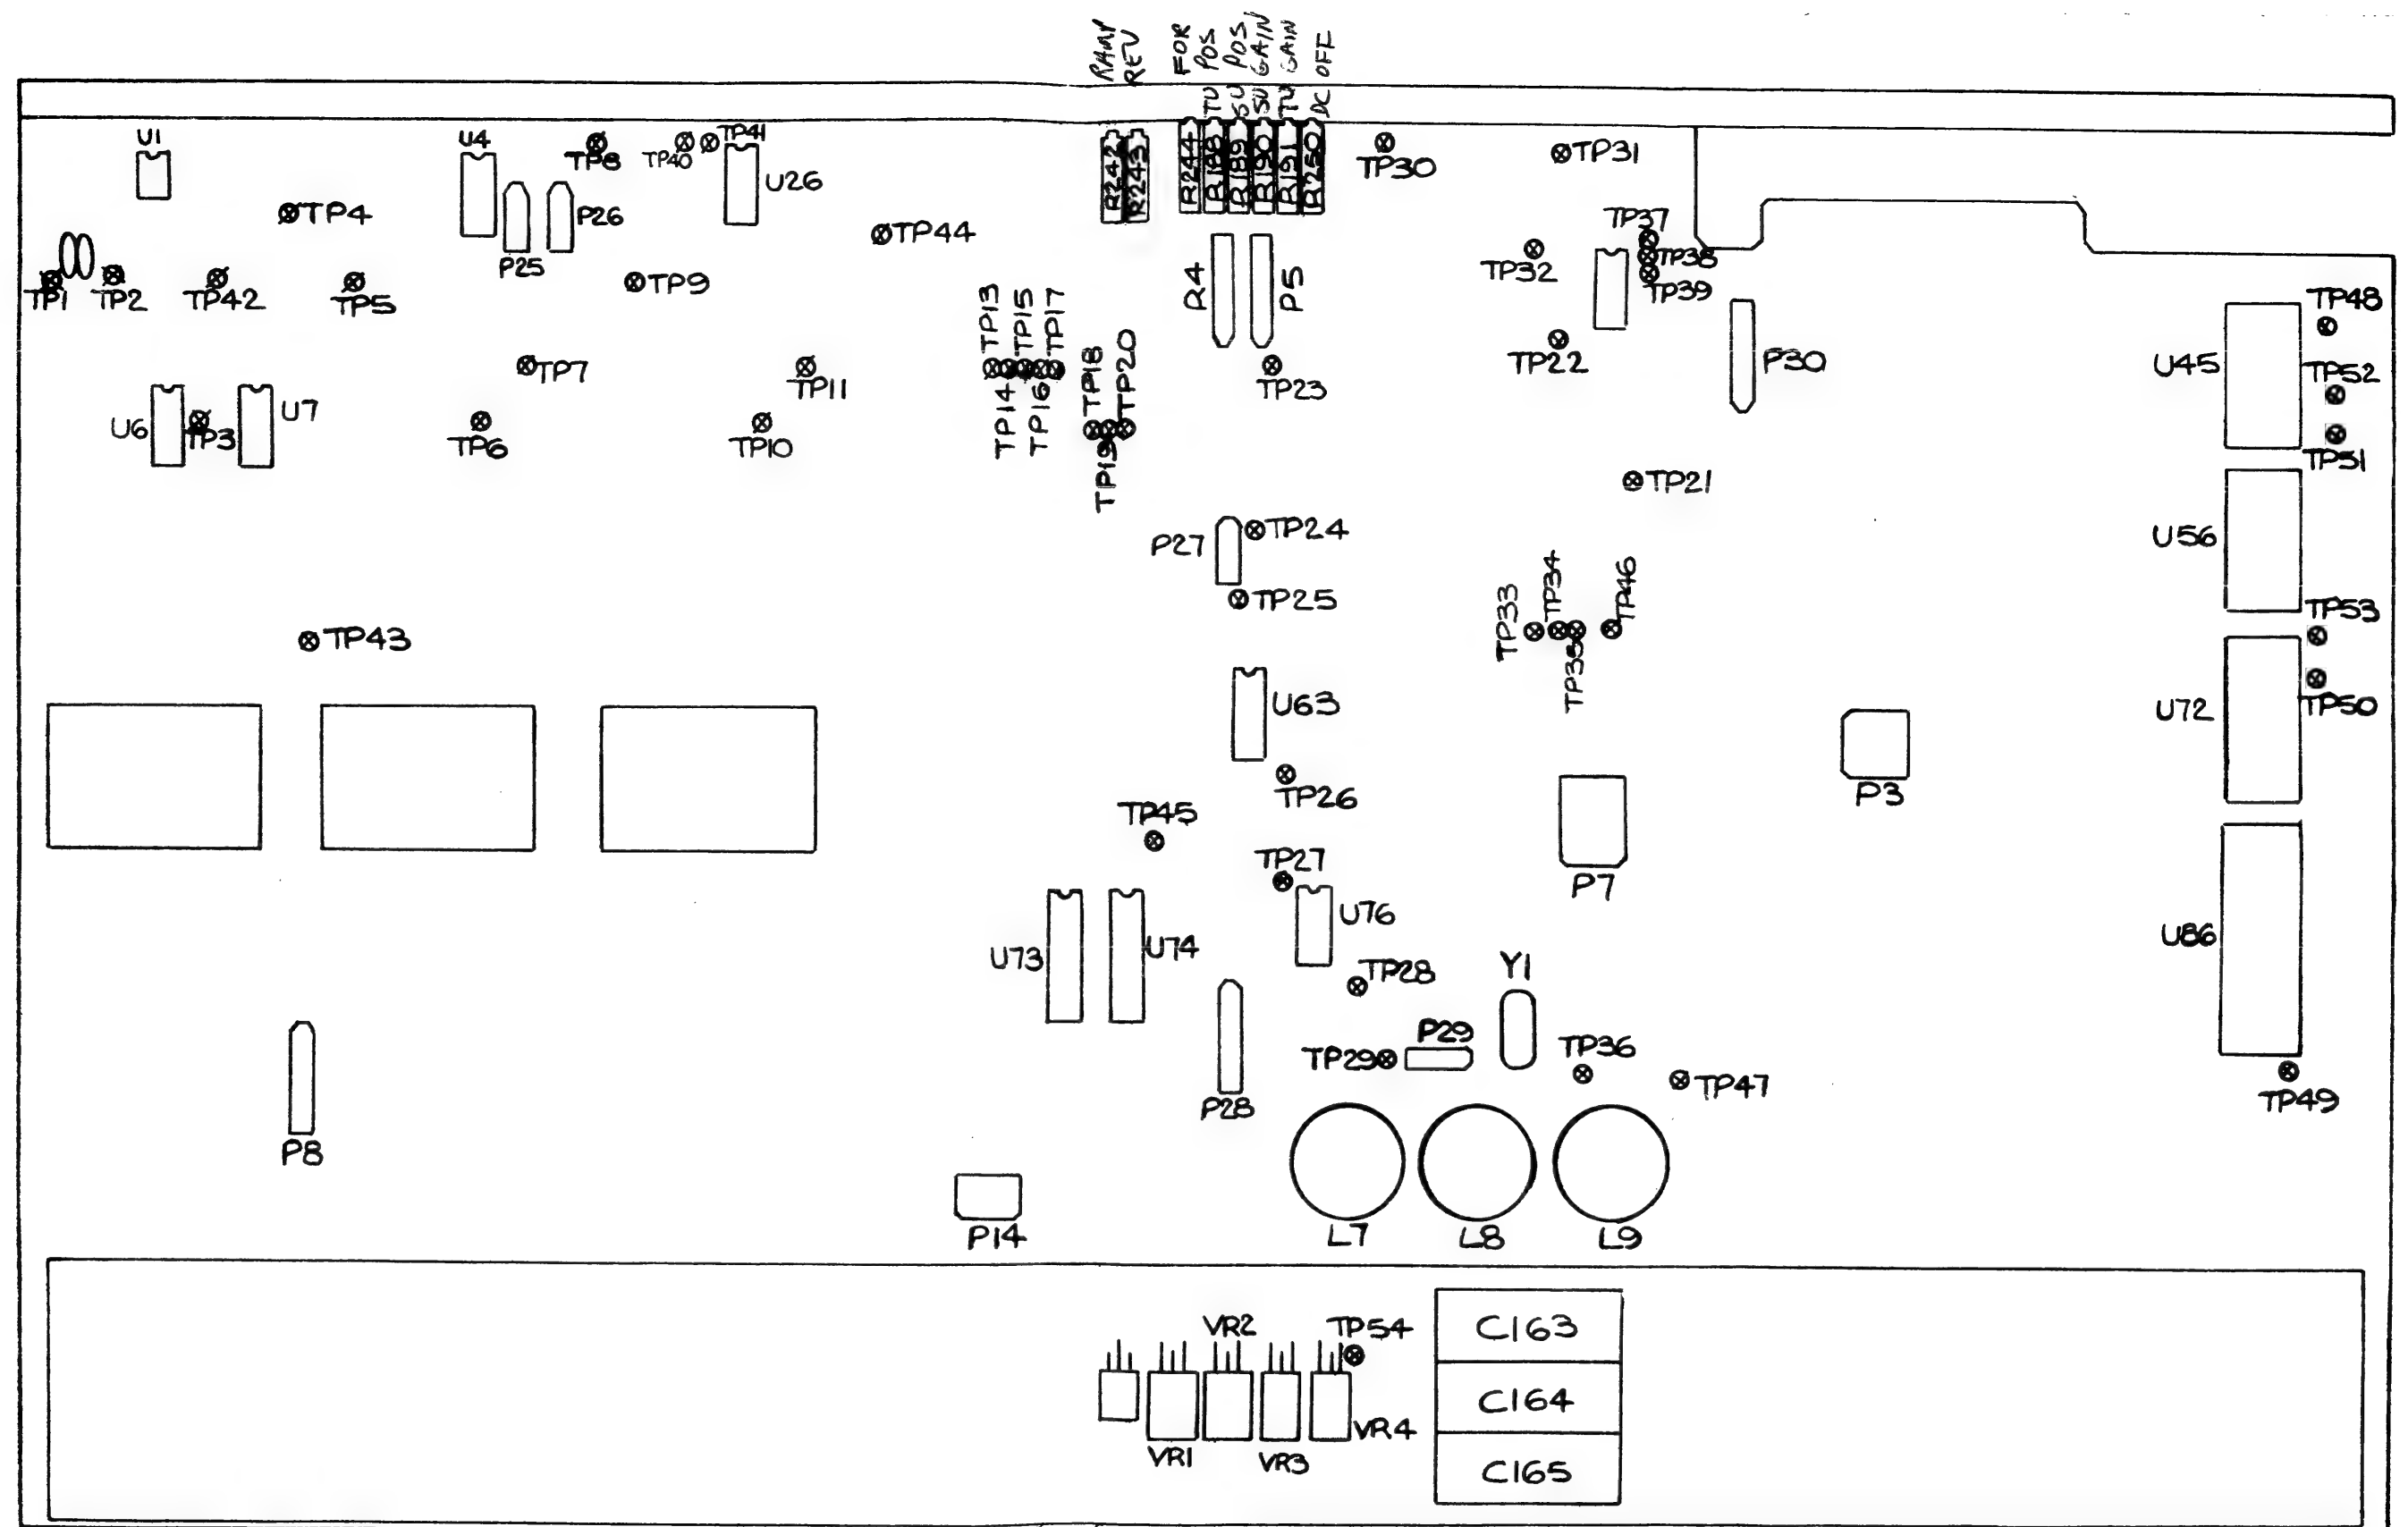

Figure 5-10. Control/Servo PWB Test Point Chart
5-39. REGULATED POWER SUPPLY ADJUSTMENTS. The potentiometer used for this adjustment is located on the power regulator portion of the control/servo PWB. Test point locations are shown in Figure 5-10. Referring to Table 5-3, for each of the power supplies listed measure voltage across the test points shown.
5-41. DC OFFSET ADJUSTMENT. Connect a digital voltmeter to pins 1 and 2 of connector P8, and adjust potentiometer R250, on the control/servo PWB (Figure 5-10), for $0(\pm 0.05)$ Vdc.
- Monitor voltage at TP27, located on capstan servo portion of control/servo board. (See Figure 5-10 for location of test points.)